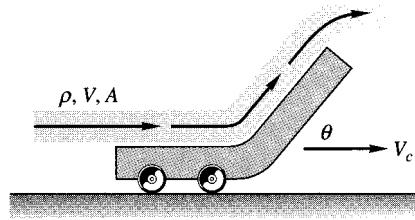

Fig. P11.18
**11.18** A jet of velocity  $V$  strikes a vane which moves to the right at speed  $V_c$ , as in Fig. P11.18. The vane has a turning angle  $\theta$ . Derive an expression for the power delivered to the vane by the jet. For what vane speed is the power maximum?